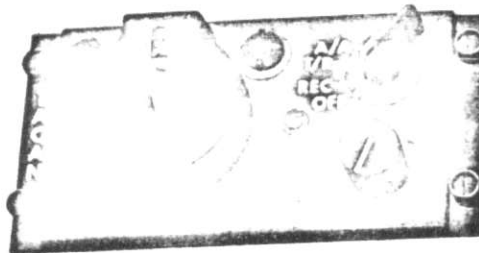

Fig 5-9 TACAN Control Panel
5-61. C-2010/ARN-52(V) TACAN CONTROL PANEL. The TACAN control panel, marked TACAN, is located on the extreme left-hand side of the pilot's compartment (I. Fig. 2-6, Chapter 2). The controls and their functions are as follows (see Fig. 5-9):
f. Note the TACAN bearing reading on the BDHI. Adjust the SET knob on the TACAN course indicator so that the TACAN bearing appears in the window. Orient the aircraft to fly the course prescribed by the TACAN bearing. The vertical needle of the course indicator should be in the center. The function of this needle is to indicate deviation from the selected TACAN bearing. Deviation of the vertical needle to the right of center indicates that the aircraft is to the left of the desired radial. Deviation of the vertical needle to the left of center indicates that the aircraft is to the right of the desired radial. With the aircraft flying the TACAN bearing as indicated on the BDHI and the SET knob on the course indicator adjusted to this TACAN bearing, a "FROM" indication of the course indicator TO-FROM indicator will be observed. When the aircraft passes over the TACAN beacon while flying the same radial, a "TO" indication will be observed. The station identity Morse coded letter group (identity tone) will be heard clearly over the headset. The volume of the identity tone is controlled by the VOL control on the TACAN control panel (Fig. 5-9). The bearing alarm flag on the course indicator will not be in view.